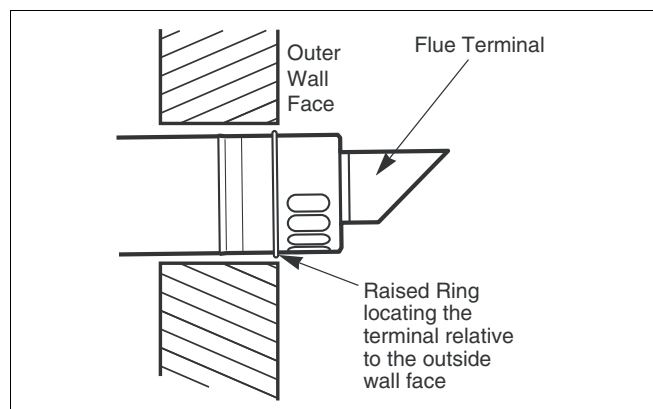

fig. 19 Flue terminal position
- Mark of the lengths shown onto the ducts and cut the length. The cuts must be square and free from burrs. Terminal assembly outer (air) duct - L-70 mm, inner (flue) duct - L-50 mm. The measurement is made from the ridge at the terminal indicating the outer face of the wall. Refer to figure 19. Extension air duct - L-70 mm, flue duct - L-50 mm. The measurement is from the formed end.